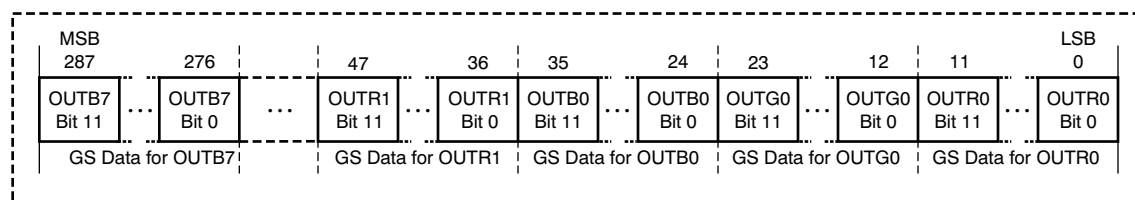

Figure 45. Grayscale Data Latch Configuration
The grayscale (GS) data latch is 288 bits long. This latch contains the 12-bit PWM grayscale value for each of the TLC5951 constant-current outputs. The PWM grayscale values in this latch set the PWM on-time for each constant-current driver. See Table 7 for the on-time duty of each GS data bit. Figure 45 shows the shift register and latch configuration. Refer to Figure 10 for the timing diagram for writing data into the GS shift register and latch.